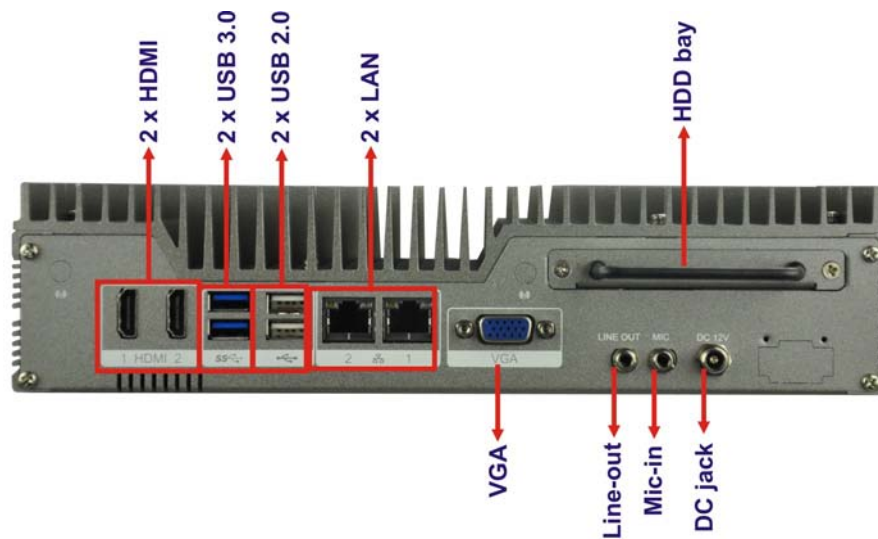

Figure 1-3: ECN-380-QM87 Rear Panel
An overview of the rear panel is shown in **Figure 1-3** below.
- Step 1:** Locate the DC-in terminal block connector. The location of the connector is shown in **Figure 1-3**.